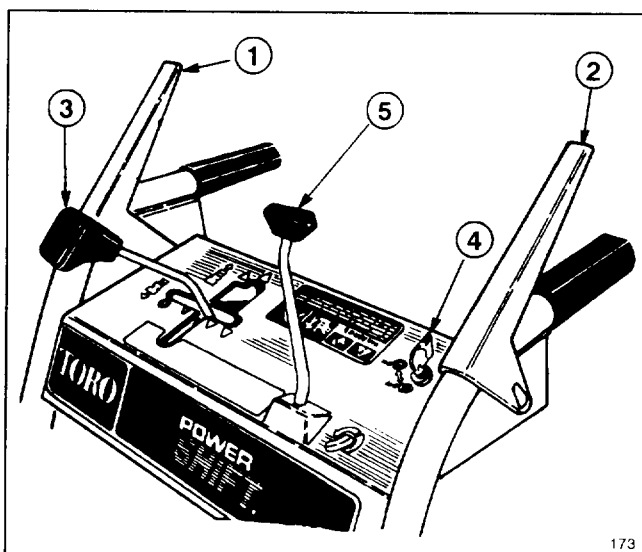

Figure 12
Auger/Impeller Control (Fig. 12)—Control has two positions: ENGAGE and DISENGAGE. To engage both auger and impeller, compress lever against right handle grip. To disengage, release lever.
Traction Drive Control (Fig. 12)—To engage traction (wheel drive) or activate power shift system, lever must be compressed against left handle grip. To stop traction, release lever.
Speed Shift Control (Fig. 12)—The control has a neutral position, four speeds forward and two reverse, and also controls power shifting of wheels. To select speeds, move shift control to desired position.
Auger Lock—Up (Fig. 12)—When the auger/impeller control and traction drive control are both compressed, the traction control locks the auger/impeller control down. Releasing the traction control releases the auger/impeller control.
Discharge Chute Control (Fig. 12)—Rotate discharge chute control clockwise to move discharge chute to the right and counterclockwise to move chute to the left.
Ignition Switch (Fig. 12)—Switch has two positions: ON and OFF. Rotate key to ON position before starting engine. To stop engine, rotate key to OFF.
1. Move speed shift control to N (neutral) and throttle to FAST (Fig. 12).
5. Rotate ignition key to ON (Fig. 12).
1. Release traction and auger/impeller drive controls (Fig. 12).